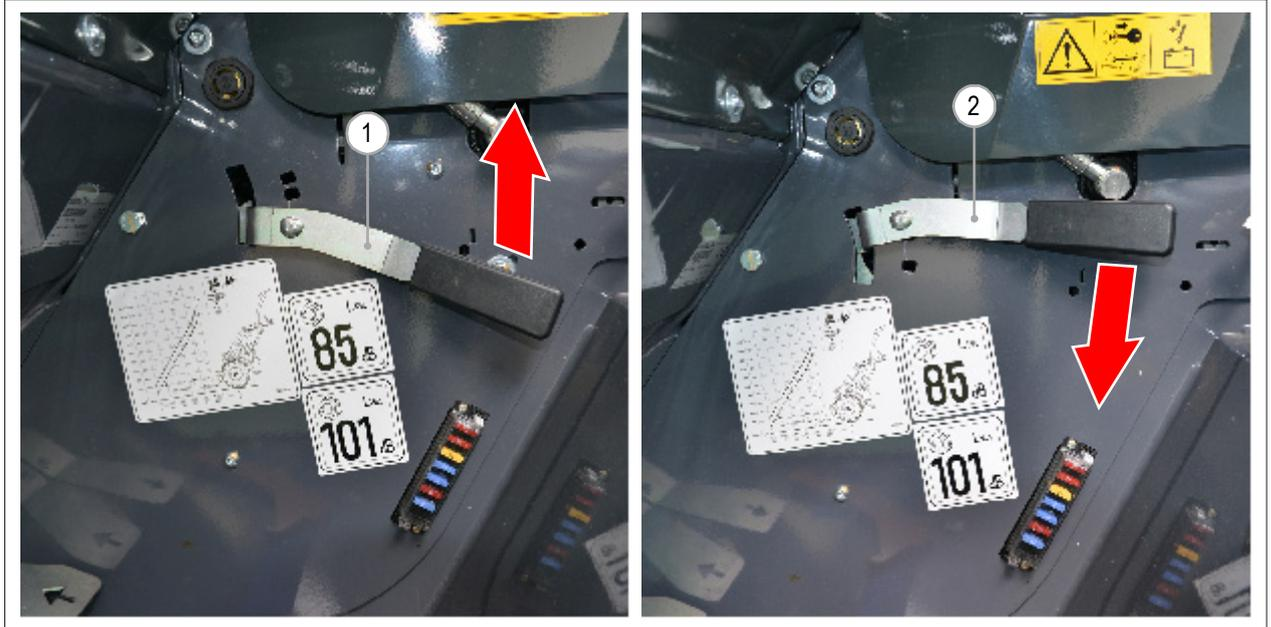

FIG. 34
- 1) Pull up the parking brake lever and lock it by pushing it to the right (**FIG. 34 - Ref. 1**).
- 1) Unlock the parking brake lever by moving it to the left and down (**FIG. 34 - Ref. 2**).